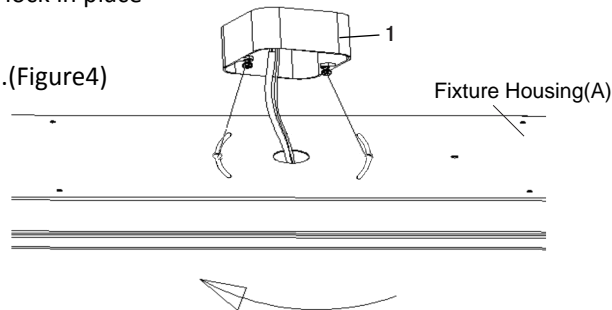

Figure 4
1. Attach the Housing(PartA) to the junction box(1) by aligning the holes on the Housing(PartA) with the screws on the junction box(1).
2. Turn Housing(PartA) clockwise to lock in place and tighten screws to ensure the fixture is secure and will not move .(Figure4)